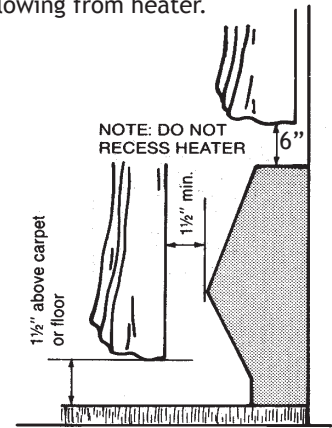

Figure 2:
6. **CAUTION - Heater Operates at High Temperatures.** Keep Electrical Cords (including telephone and computer cables), Drapes, and Other Furnishings Away From Heater. For efficient and safe operation, we recommend maintaining a minimum of 6 inches (152 mm) clearance above and in front of the heater at all times. See Figure 2 for minimum clearance requirements for drapery.
Heater to Drapery: do not install heater where curtains or drapery will contact the heater. See Figure 2 for required minimum clearances.